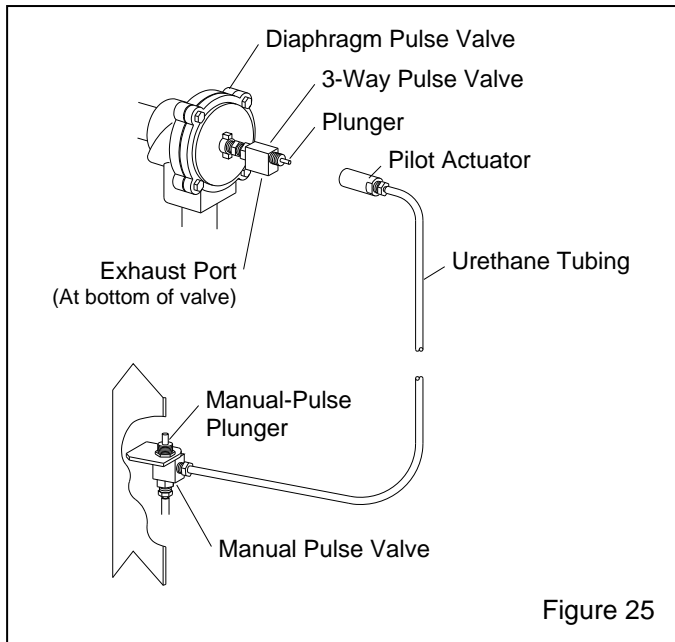

Figure 25
**8.1.4** Refer to Figure 25 and check the diaphragm pulse valve and actuator assembly as follows.